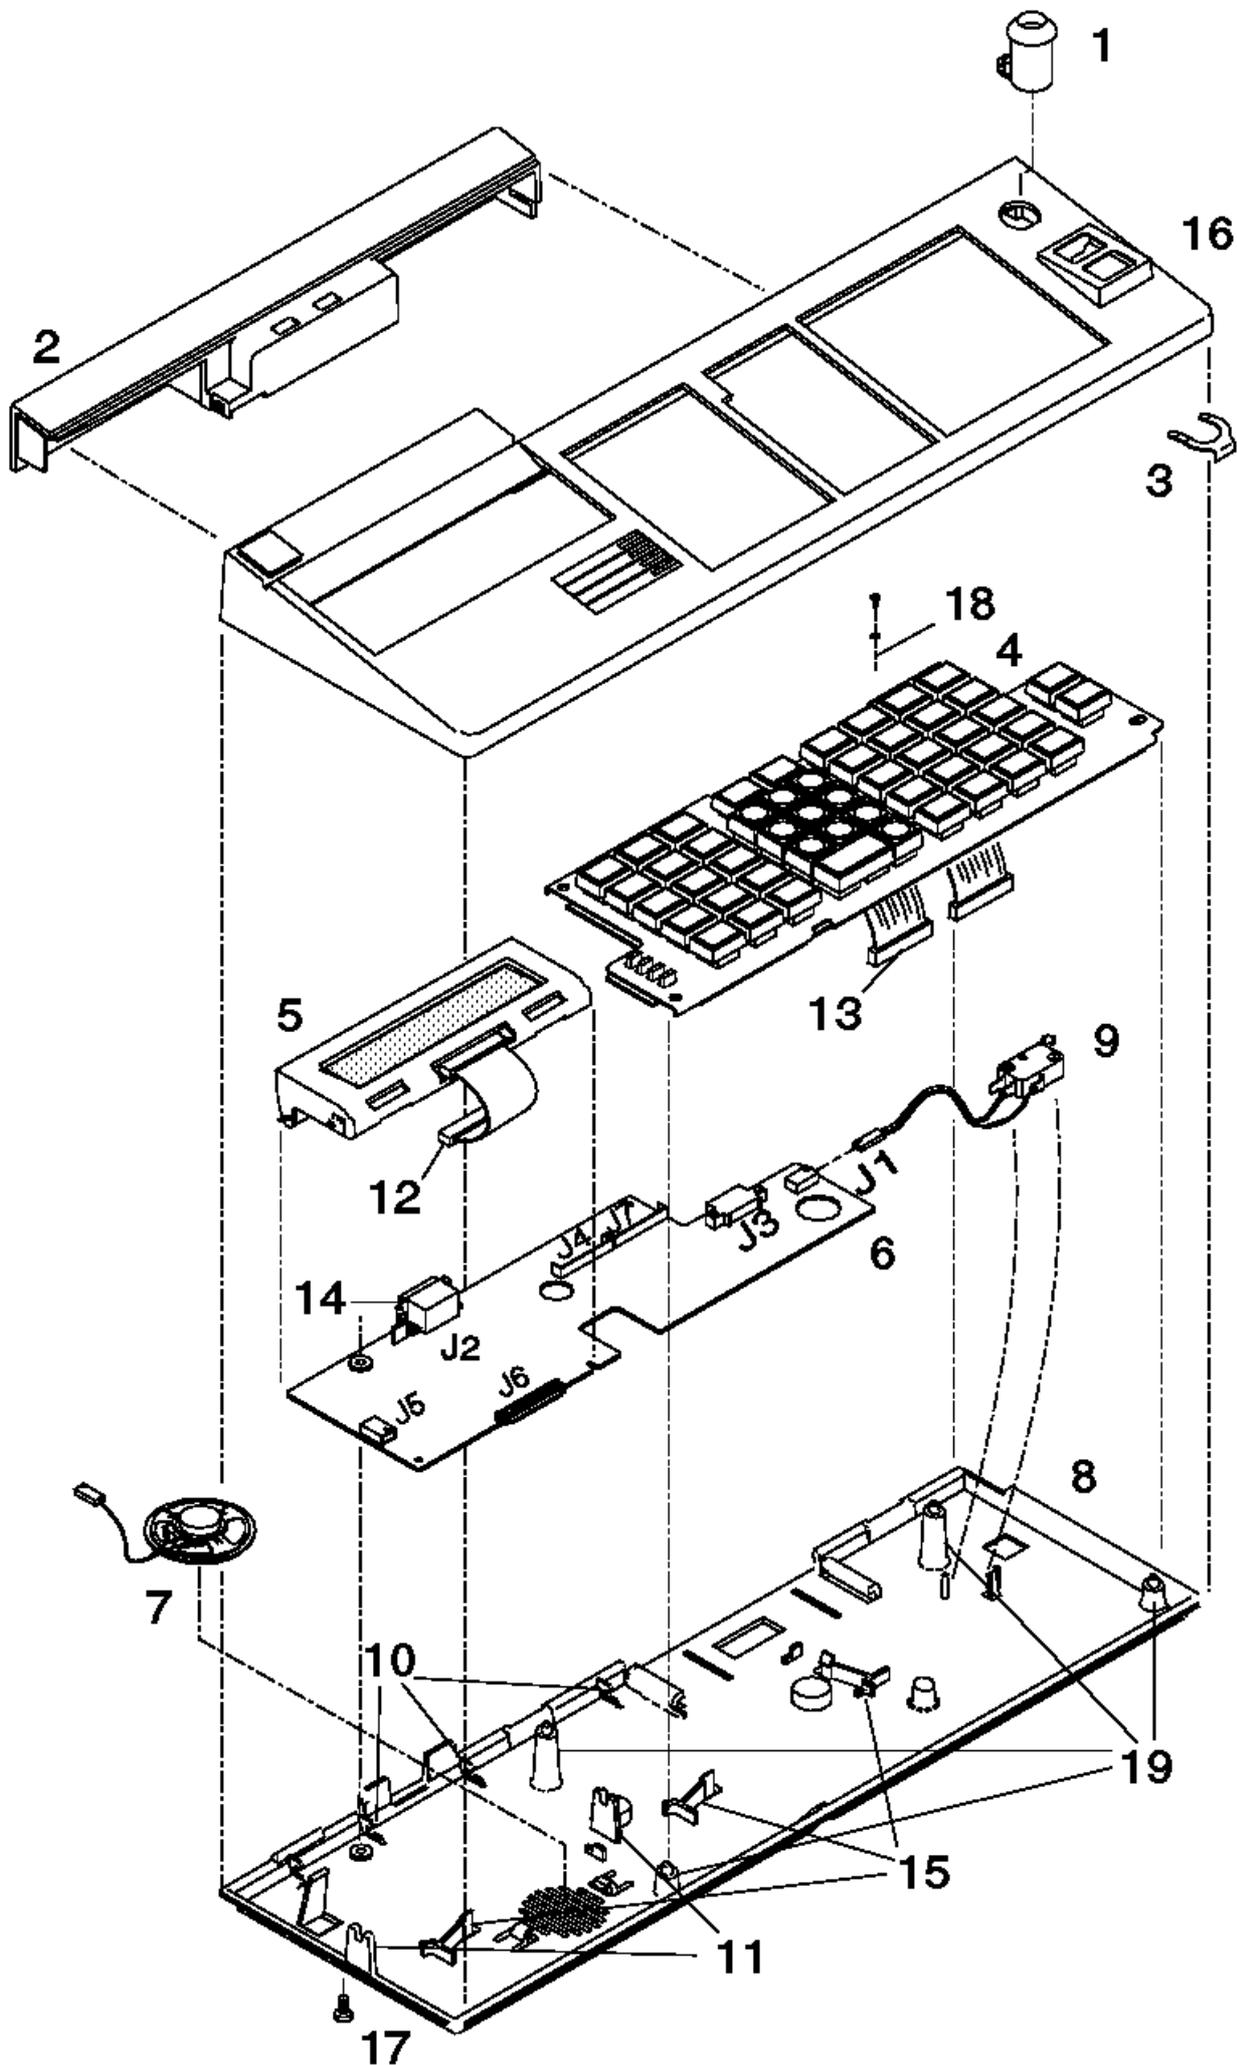

Figure 4-13. Removing a Combined Keyboard/Display Component
3. Remove the grounding screw (18). See Figure 4-13 in topic 4.3.5.8.
5. Disconnect the cables from cable sockets J4 and J7. See Figure 4-13 in topic 4.3.5.8.
5. Remove the grounding screw (17) that goes through the keyboard base and attaches to the logic board. See Figure 4-13 in topic 4.3.5.8.
7. Release the 3 logic board latches (15).
8. Move the logic board from under the tabs (10) and lift it out of the keyboard base.
3. Remove the keylock retainer (3). See Figure 4-13 in topic 4.3.5.8.
4. Lift the keylock (1) out of the keyboard cover.
3. Lift the keypad assembly and turn it over as shown in Figure 4-13 in topic 4.3.5.8.
4. Disconnect the cable on the manager's keylock switch (9) from cable socket J1. See Figure 4-13 in topic 4.3.5.8.
6. Disconnect the cable on the speaker (7) from cable socket J5. See Figure 4-13 in topic 4.3.5.8.